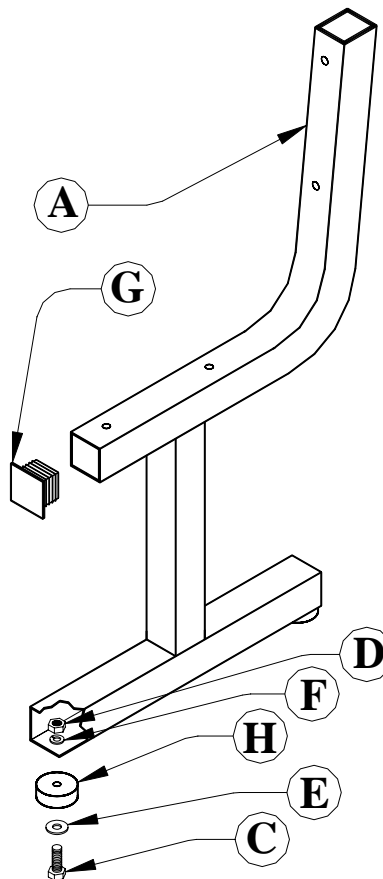

Figure 1
1. Attach the *Rubber Feet* (H) to the *Leg Assemblies* (A) with 3/8" x 1 1/2" *Hex Bolts* (C), 3/8" *Flat Washers* (E), 3/8" *Lock Washers* (F) and 3/8" *Hex Nuts* (D). See Figure 1
2. Insert the *Plastic Tube Plugs* (G) in all open tube ends on the *Leg Assemblies* (A). See Figure 1.